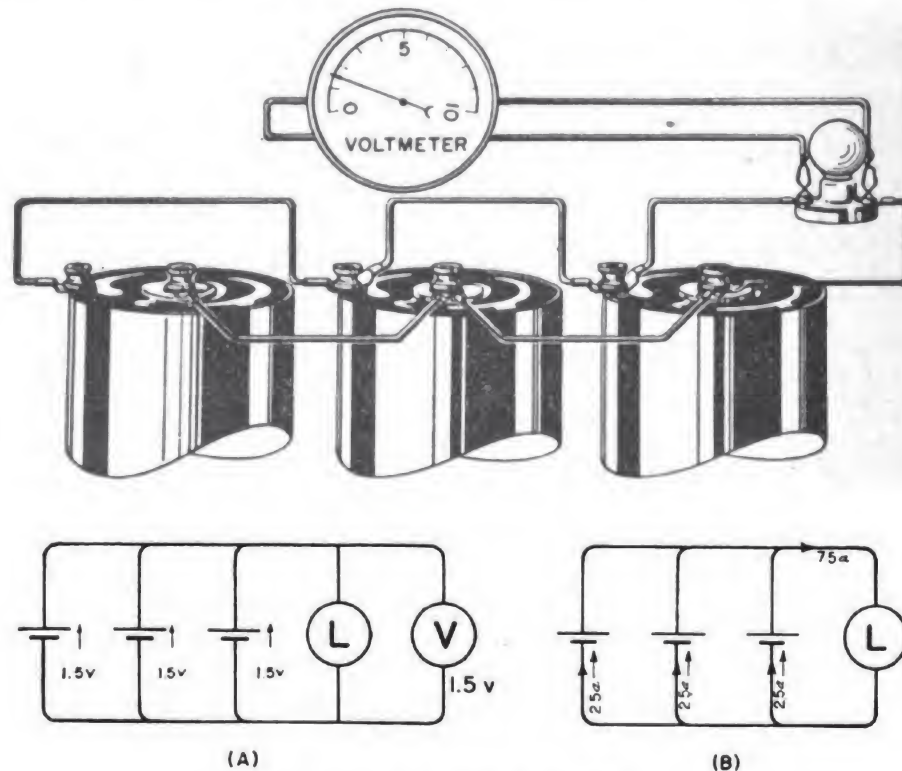

Figure 69.—Cells in parallel.
and all the negative terminals to another conductor. In (A) of figure 69, you have three 1.5-volt cells in parallel.
If each cell in (*B*) of figure 69 is rated at 30 amperes maximum, you obtain a total current of 90 amperes. If the load circuit requires 75 amperes, each cell supplies 25 amperes.